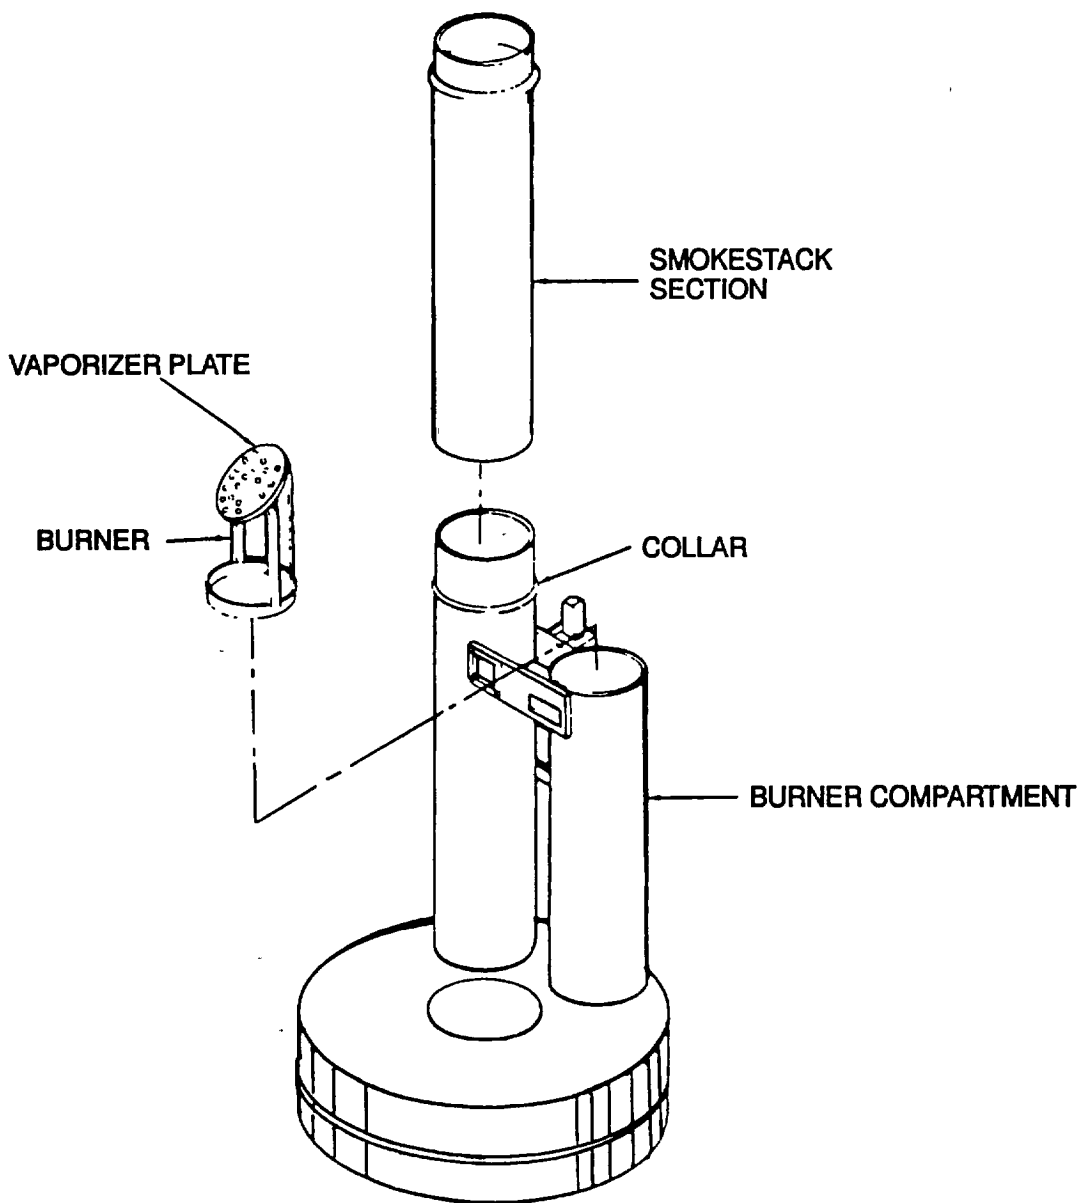

Figure 2-2. Immersion Heater, Compartment
- (1) Install burner in burner compartment with cast iron vaporizer plate facing up (Figure 2-2).
- (2) Assemble each section of smokestack using two split rivets per section.
- (3) Attach the four sections of the smokestack to the collar on the flue compartment.
- (8) Inspect the tank for leaks. Replace the tank as required.
- (9) After the smokestacks have cooled, remove them from the heater (Figure 2-2).
- (10) Remove the soot from the smokestack sections.